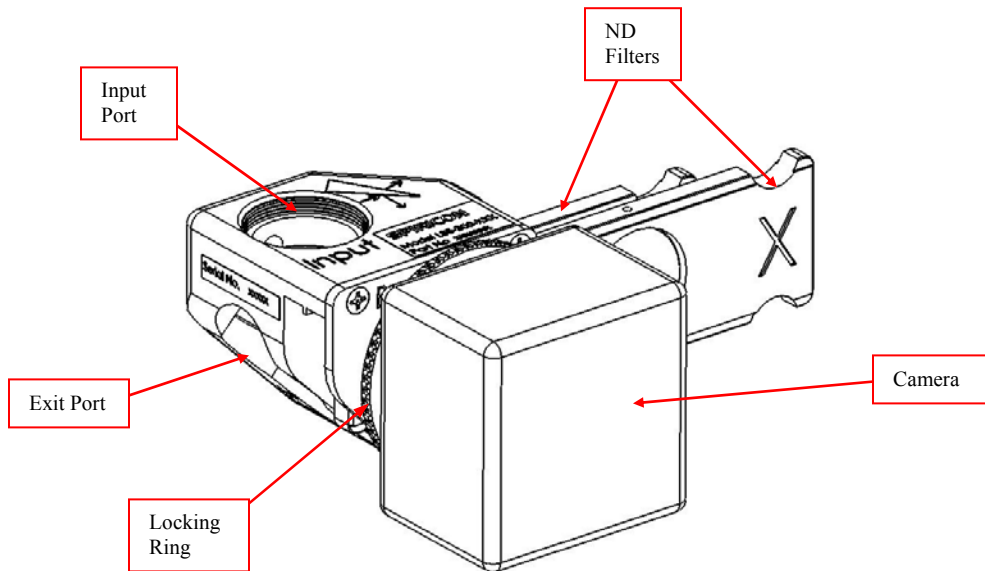

Figure 1
1. The LBS-300 is attached to the camera as shown in Figure 1. An adjustable locking ring is provided so that the beam sampler can be oriented with the input port to the right, left, up or down as required.